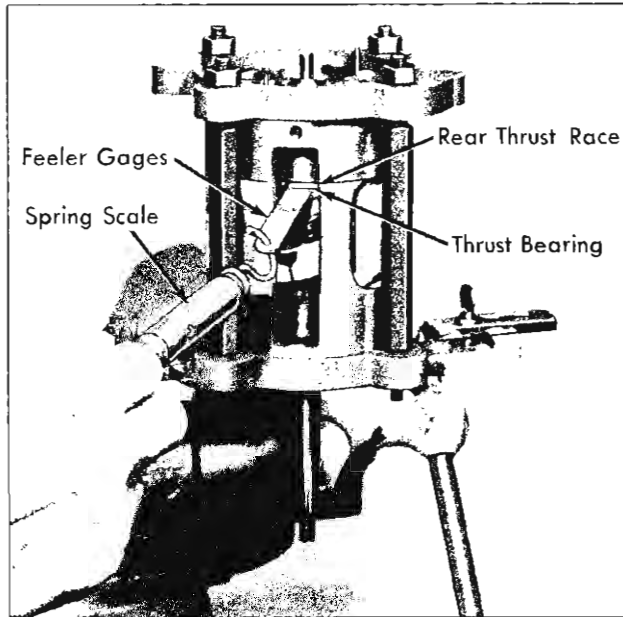

Fig. 37—Checking Clearance Between Rear Thrust Bearing and Outer Thrust Race
14. The next gauging operation is to determine the space between the REAR thrust bearing and the upper (outer) rear thrust race. Use a suitable combination of feeler gauge leaves so that 4 to 8 oz. of force is required to pull gauge free (fig. 37). Select a numbered thrust race to correspond to this feeler gauge reading and place this race in parts tray in the rear thrust race compartment.